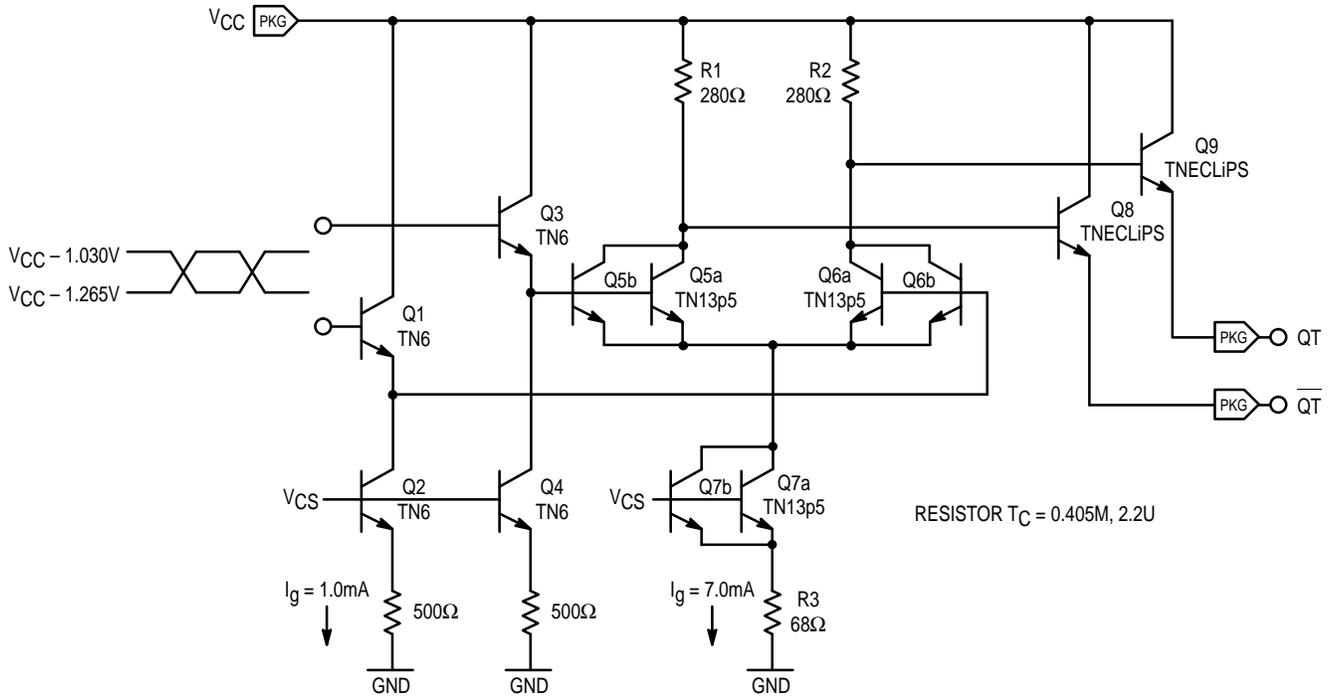

Figure 3. Simplified Enhanced Swing Output Schematic
There is only one schematic, Figure 1, to represent the input structure of the device. There are two basic output structures needed to model the device. The structure in Figure 2 represents the normal PECL output circuitry (QR) and is intended to drive a 50 Ω transmission line. Figures 3 represents the enhanced double amplitude output (QT) used to interface to the cable or printed circuit transmission line.